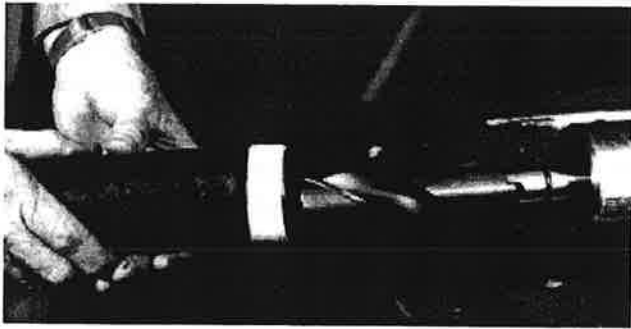

Figure 16. Install Valve Adapter
- D. Install valve adapter. Use sealing tape or compound on threads of valve adapter to assure a tight seal. Thread adapter to drilling machine. See Figure 16.